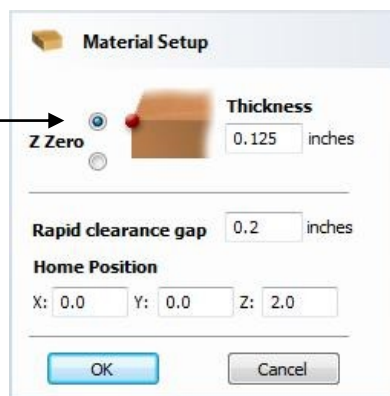

Figure 10. Material Setup
6. Select the **Material Setup** icon from the **Toolpath Operations** list on the Toolpaths tab and specify the Rapid Clearance Gap to be **0.2"** and Home position to be **X0, Y0, Z2"** as shown below in Figure 10. (or a home position to suit your machine) Click **OK** to confirm.